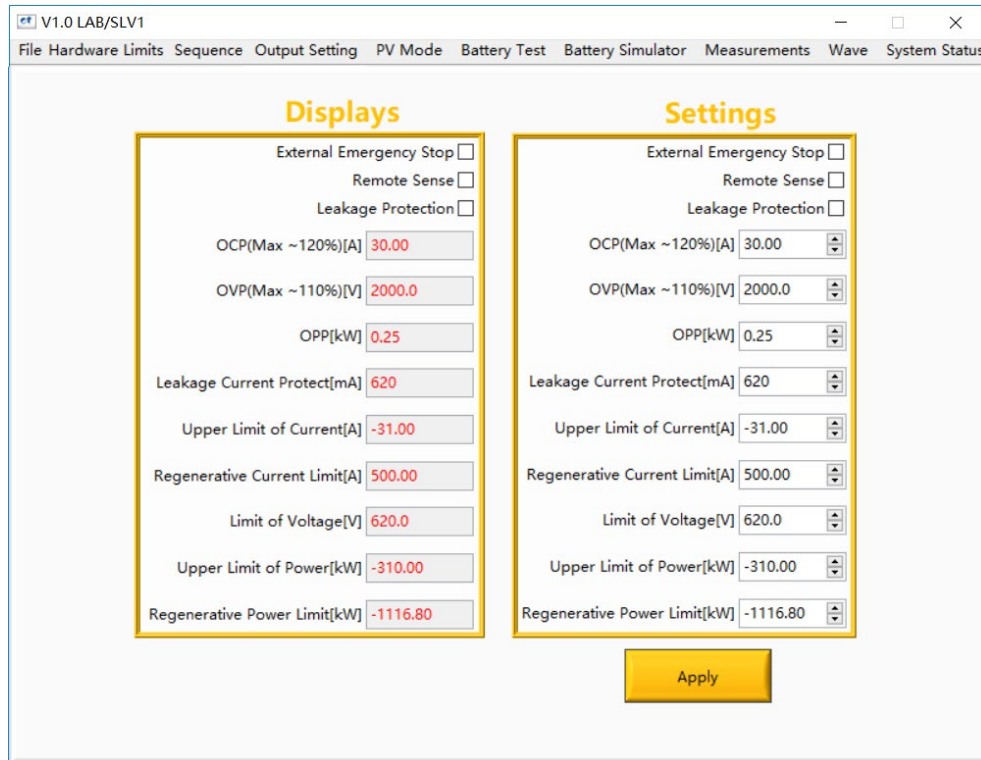
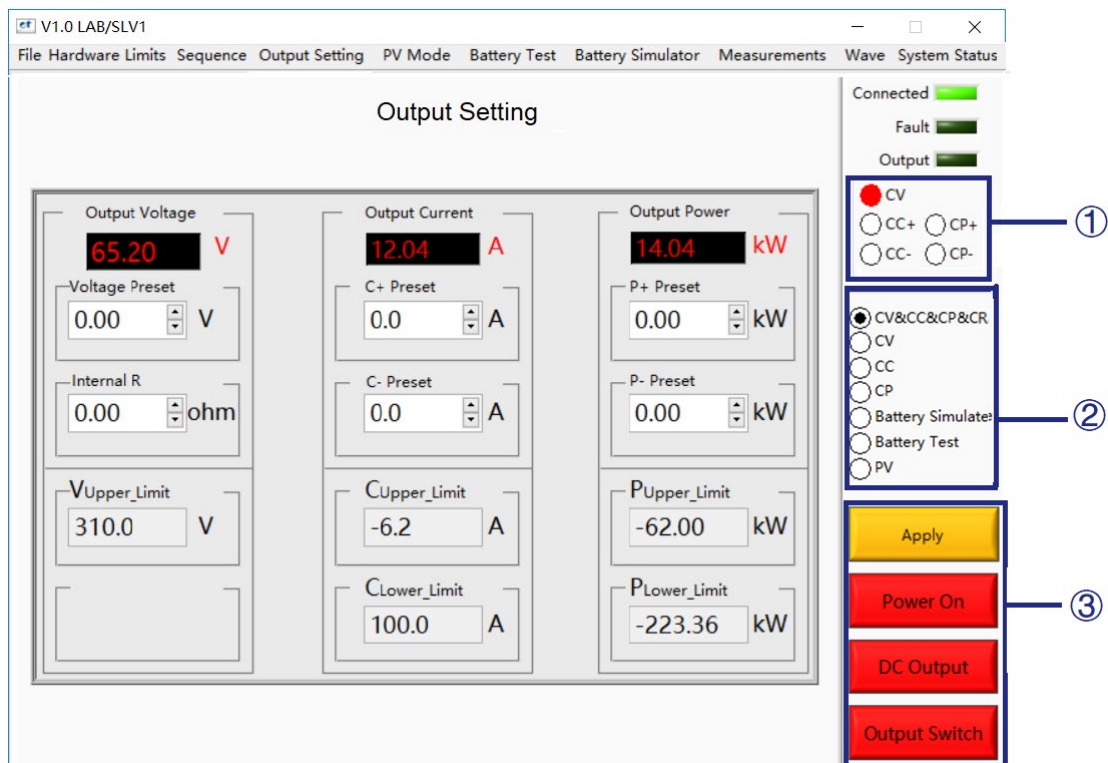

Figure 5-7 Hardware limits panel
Figure 5-8 Output setting panel
Click "Hardware Limits" to enter the hardware limit (Figure 5-7). After setting the parameters, click "Apply", the corresponding voltage, current, and power limits displays at the bottom of Figure 5-8.
After setting the hardware limit, click "Output Setting" (Figure 5-8). Select the mode (Figure 5-8②) and set the parameters. After completion, click "Apply" → "Power On" → "DC Output" → "Output Switch", the power supply starts to work.